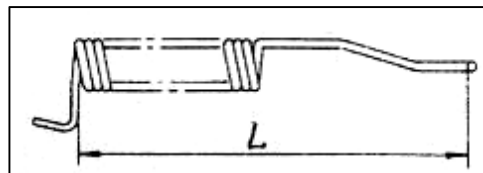

Fig. 5-14
- (6) Measure the free length and installed load of return spring for Brake shoes (Fig. 5-14);